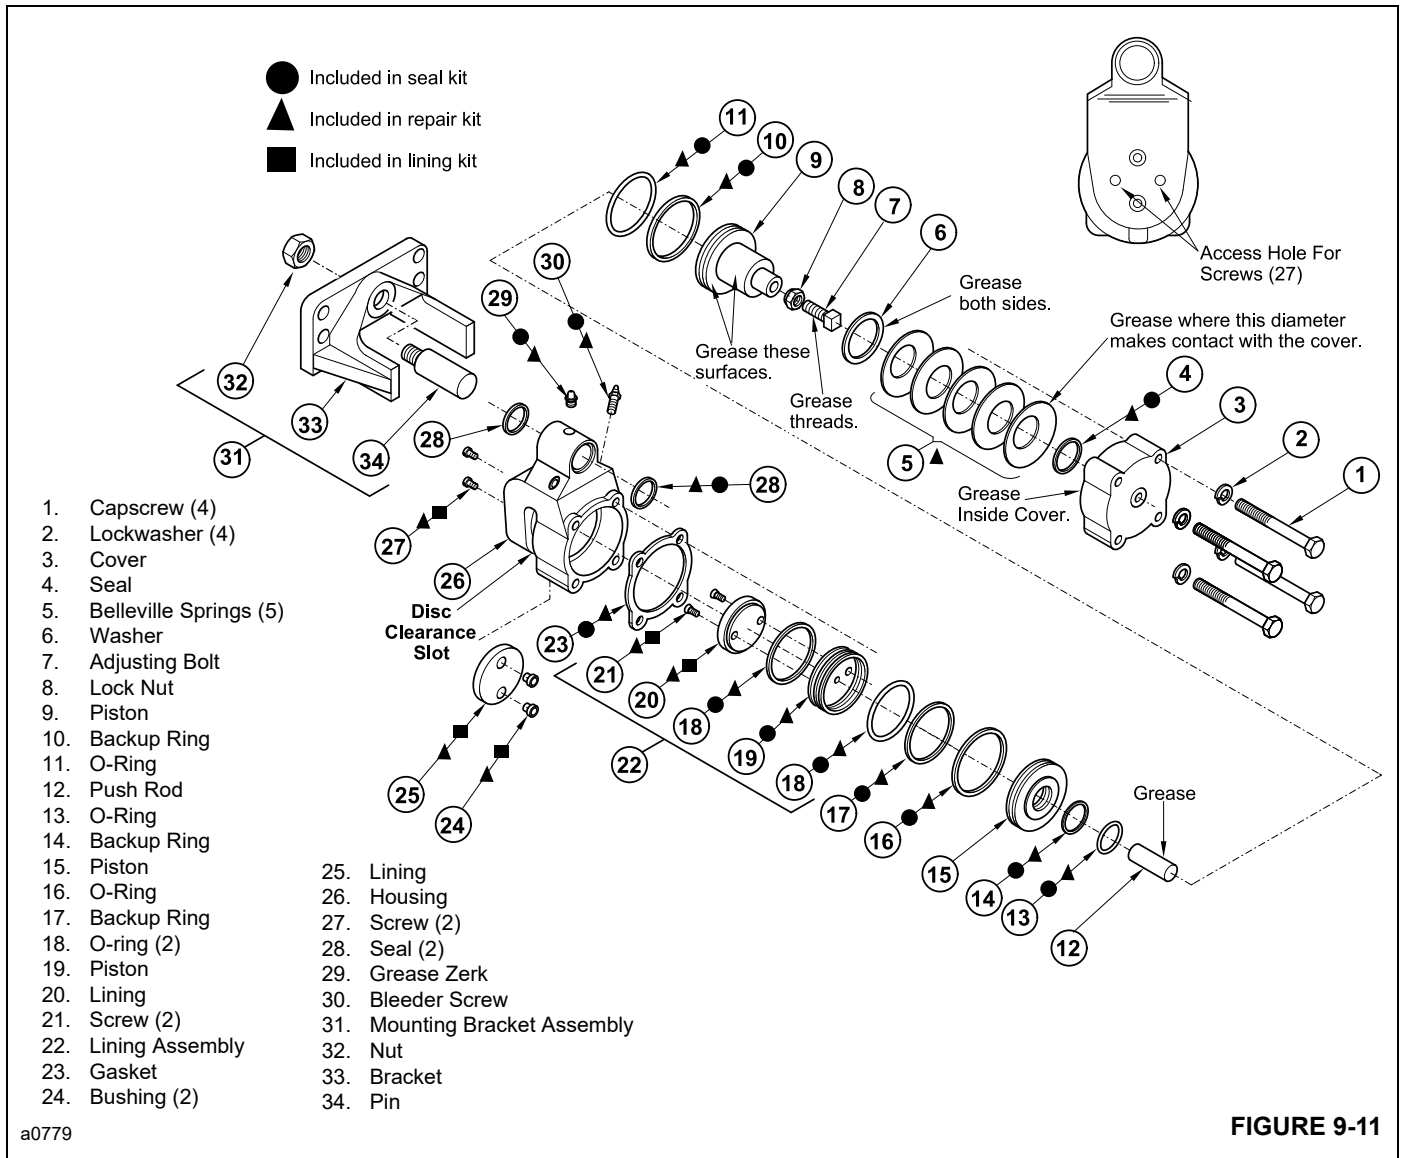

FIGURE 9-11
The lining kit is indicated in Figure 9-11 with a  symbol.
4. Loosen lock nut **8** Figure 9-11 and back off adjusting bolt **7**.
The parking brake has a repair kit available. It includes all the parts necessary to rebuild the brake. These parts are indicated in Figure 9-11 with a ▲ symbol.
4. Loosen lock nut 8 Figure 9-11 and back off adjusting bolt 7.
11. Remove capscrews **1** Figure 9-11, lockwashers **2**, cover **3** and gasket **23**. Using a thin blade screw driver, remove seal **4** from cover **3**.
**NOTE:** Coat the surfaces indicated Figure 9-11 with a Lithium Base, E.P. No. 2 bearing grease or equivalent.
19. Install new lining **25** Figure 9-11 in housing **26** using new bushings **24** and pan head screws **27**. Tighten the screws to 2.5 - 3.3 Nm (22-28 lb-in).
The parking brake has a seal kit available. It includes all the parts necessary to replace all the seals in the brake. These parts are indicated in Figure 9-11 with a ● symbol.
10. Remove capscrews **1** Figure 9-11, lockwashers **2**, cover **3** and gasket **23**. Using a thin blade, remove seal **4** from cover **3**.
**NOTE:** Coat the surfaces Figure 9-11 with a Lithium Base, E.P. No. 2 bearing grease or equivalent.